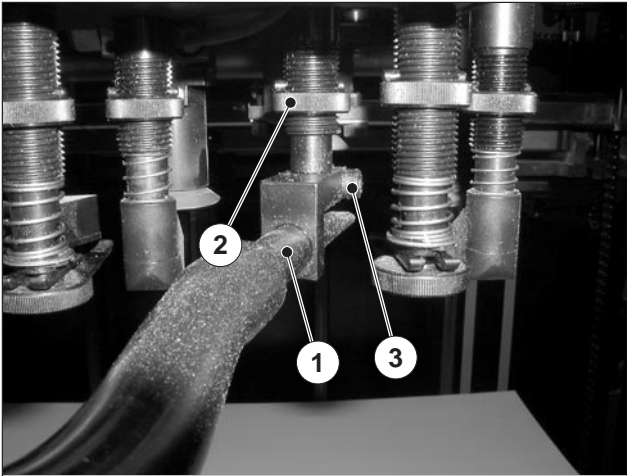

Fig. 33 Middle carrier air blowers
1. Adjust the blast air of the outer carrier air blowers (Fig. 33/1) at the control knob (Fig. 29/5).
1. Adjust the height of the outer carrier air blowers (Fig. 33/1) with the knurled nut (Fig. 33/2). The carrier air blowers should blow under the sucked sheet, up to the front edge of the sheet.
1. Loosen the 4-mm hexagon socket screw on the support (Fig. 33/3).
- the carrier air blower (Fig. 33/1) on D.S. slightly towards the outside in the direction of the pile edge D.S.
- the carrier air blower (Fig. 33/1) on O.S. slightly towards the outside in the direction of the pile edge O.S.